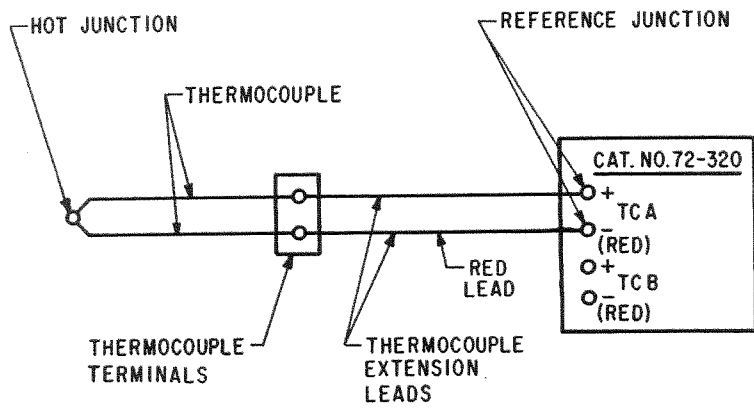

FIGURE 4: CONNECTION TO A THERMOCOUPLE
Connect the thermocouple to be measured to either pair of input binding posts (A or B) as shown in Figure 4, taking care to connect the negative thermocouple wire (red) to the (-) binding post and the positive wire to the (+) binding post. Thermocouple extension leadwires, of the same type as the thermocouple must be used if it is desired to make the measurement at a remote location from the thermocouple termination.
- (a) Connect the instrument as described in Section G1 and as shown in Figure 4.
- (a) Connect the 72-320 as described in Section G1 and as shown in Figure 4.